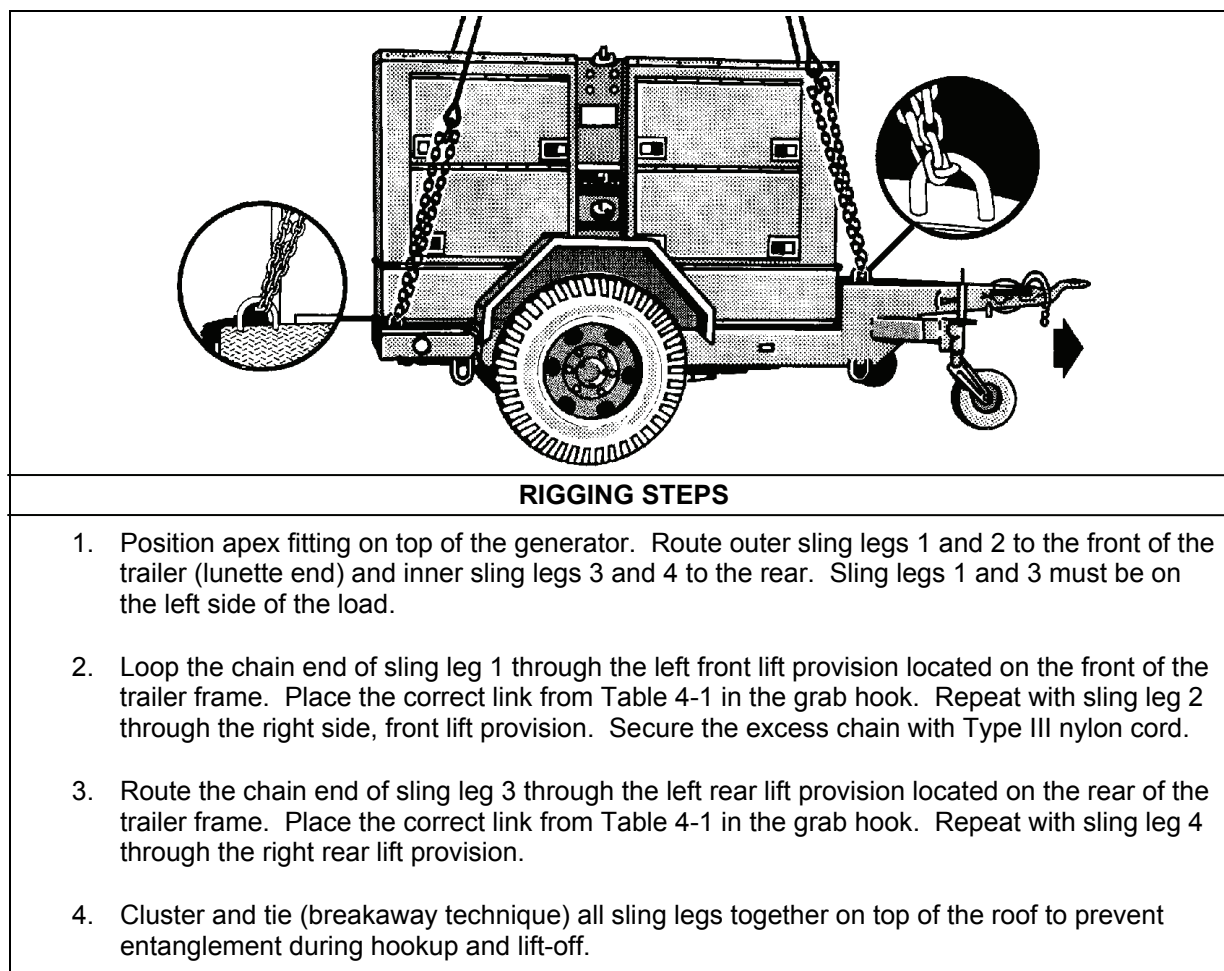

Figure 4-1. M353 Trailer Chassis with Mounted Generators
- **Rigging.** Rig the load according to the steps in Figure 4-1.